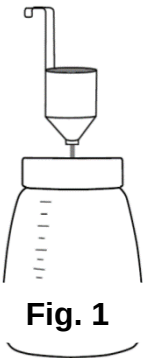
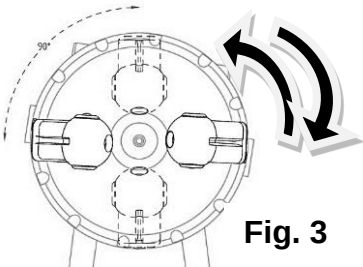

Fig. 1
Fig. 3
In a clean container, dilute the material with the appropriate solvent. Mix thoroughly. Place the paint reservoir (3) on a flat surface. Mark the viscometer above it (See Figure 1). Fill the funnel with diluted paint, then time the time it takes for all the paint to flow out through the hole in the bottom of the funnel. This time is measured in DIN/sec (DIN seconds). The longer the time it takes to do this, the thicker the paint.
- Loosen the union nut slightly, turn the atomizer cap to the required position. (Fig. 3)
Too much material on the treated area	Reduce the amount of material to be sprayed. Turn the material volume regulator (Fig.1 - 6, Fig.2 - 8, Fig.3 - 9) counterclockwise.
Increase the amount of material to be sprayed. Turn the material volume regulator (Fig.1 - 6, Fig.2 - 8, Fig.3 - 9) clockwise.